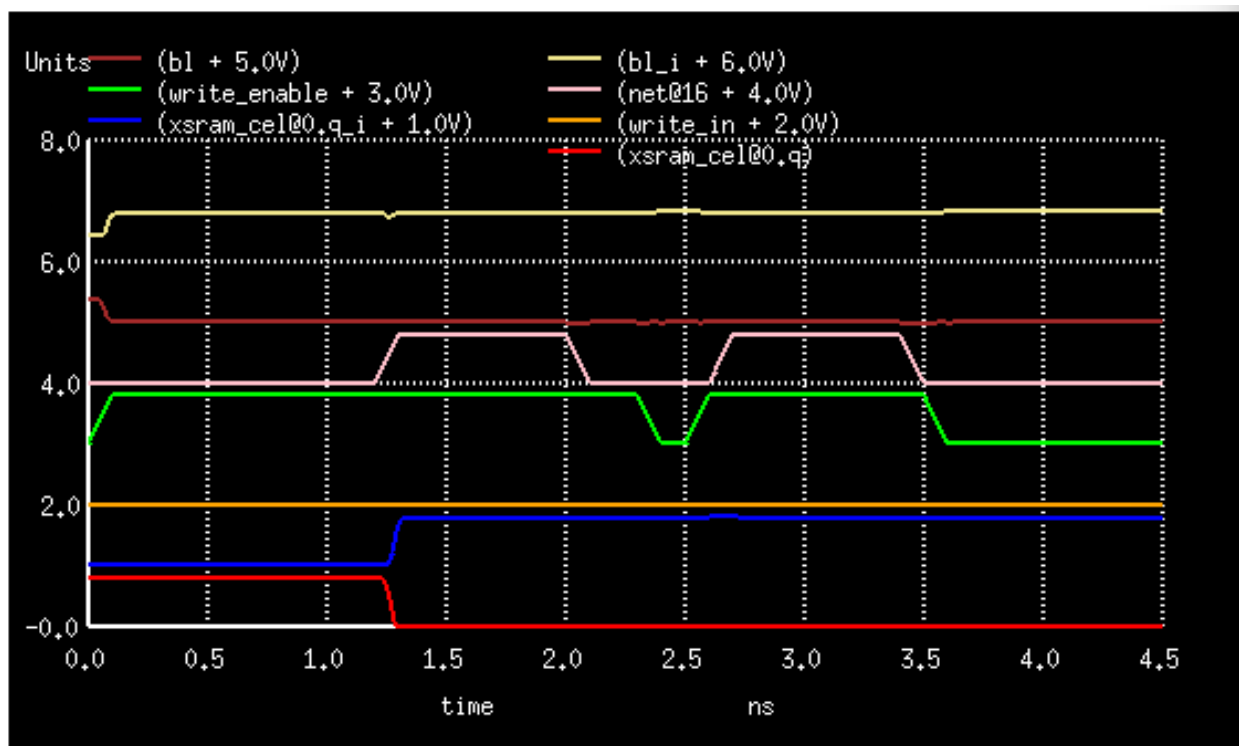

Figure 11: Writing 0, then writing 0
1. Writing a 0 to a cell with 0 (Figure 11). We first write a 0 by driving BL low and BL' high by driving write\_enable high, and driving WL to high. We then write a 0 again using the same process. The Q and Q' signals inside the cell were verified to ensure that writes were being completed properly, even after write\_enable was set low.